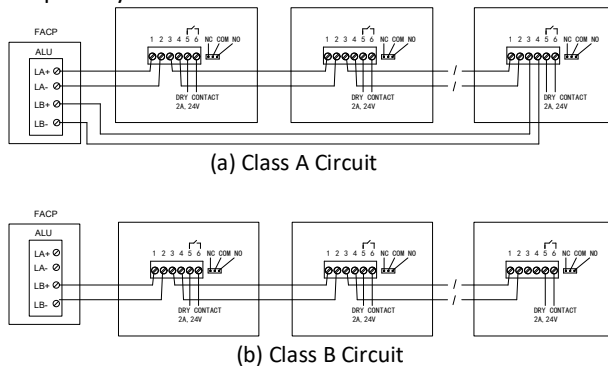

Figure 2. Wiring Diagram
5. Connect the wires, see Figure 2. SLC wires are polarity insensitive.